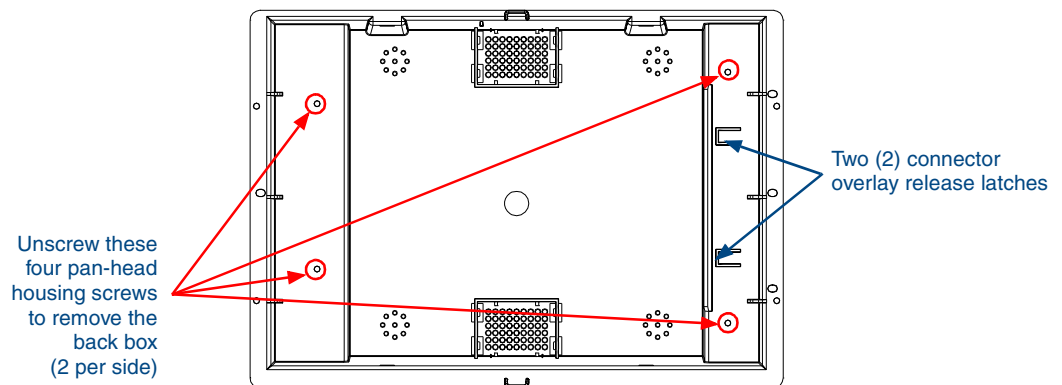

FIG. 12 Location of the attachment screws and connector overlay release latches on an NXD back box
2. Place the LCD facedown on a soft cloth to expose the under-side of the unit (FIG. 12). This step helps prevent scratching of the LCD.
5. Unscrew the outer housing (back box) by using a grounded Phillips-head screwdriver to remove the two sets of pan-head Housing Screws, located on both sides of the housing (FIG. 12).